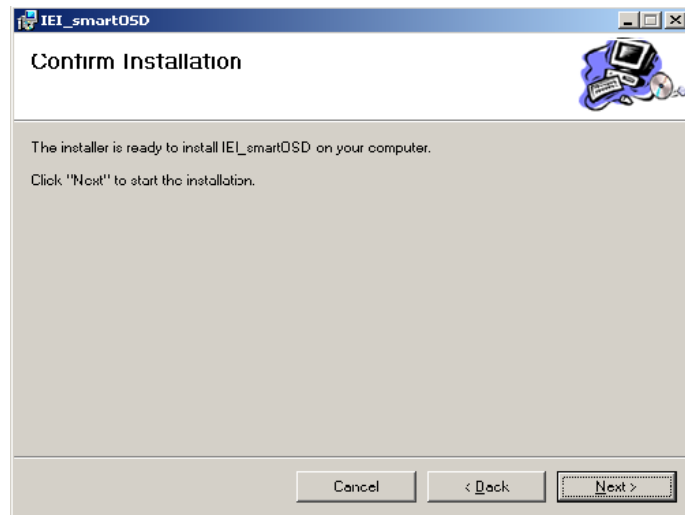

Figure 8-5: smartOSD Confirm Installation
Step 8: The screen in Figure 8-5 appears.